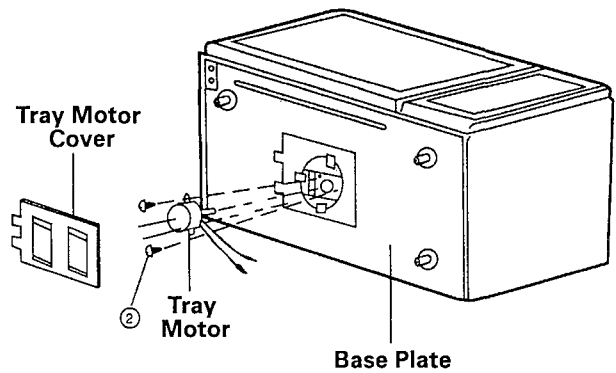

Figure 12
10. Replacement of Tray Motor. (Figure 12)